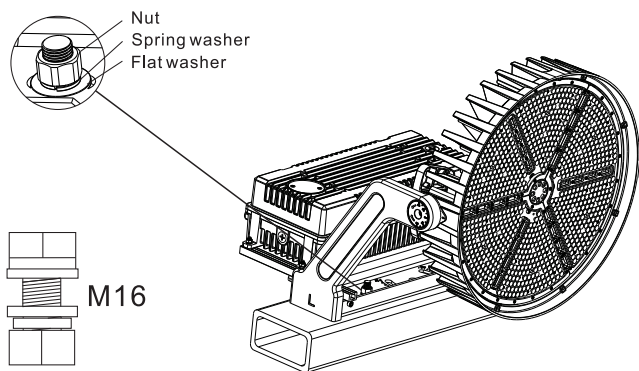

Figure 4
3. Install the luminaire on the crossbar and secure it with nuts, spring washers and flat washers (Fig. 4)